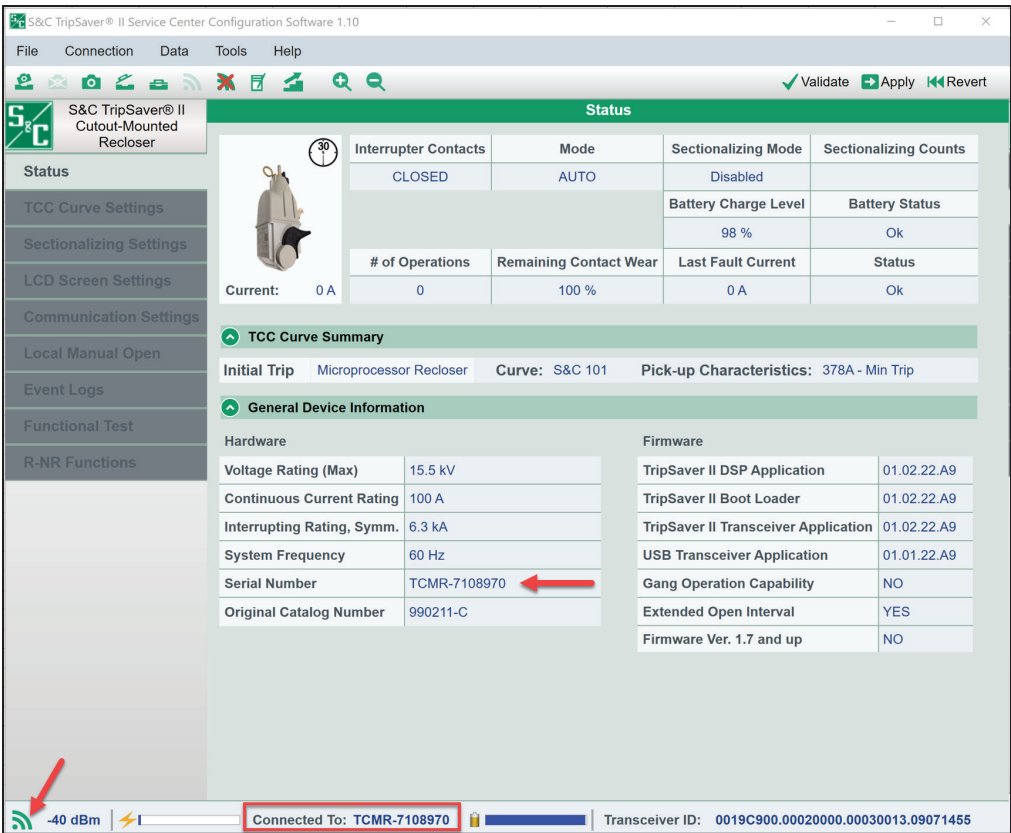

Figure 1. The TripSaver II recloser serial number and Signal Strength indicator locations.
- STEP 2.** Make a note of the serial number, starting with “TCMR,” of the TripSaver II recloser to be updated. See Figure 1 on page 10. This number is also etched on the body of the TripSaver II recloser.